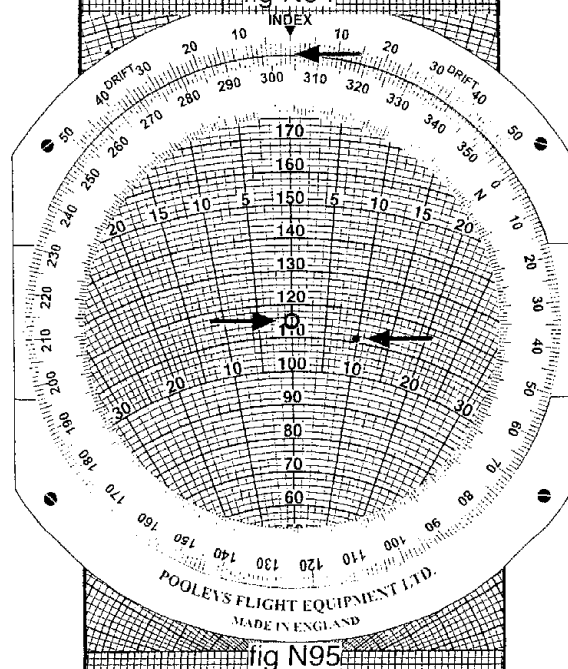

fig N95
**Note:** The soft pencil mark has moved 10° to the right (fig N95)